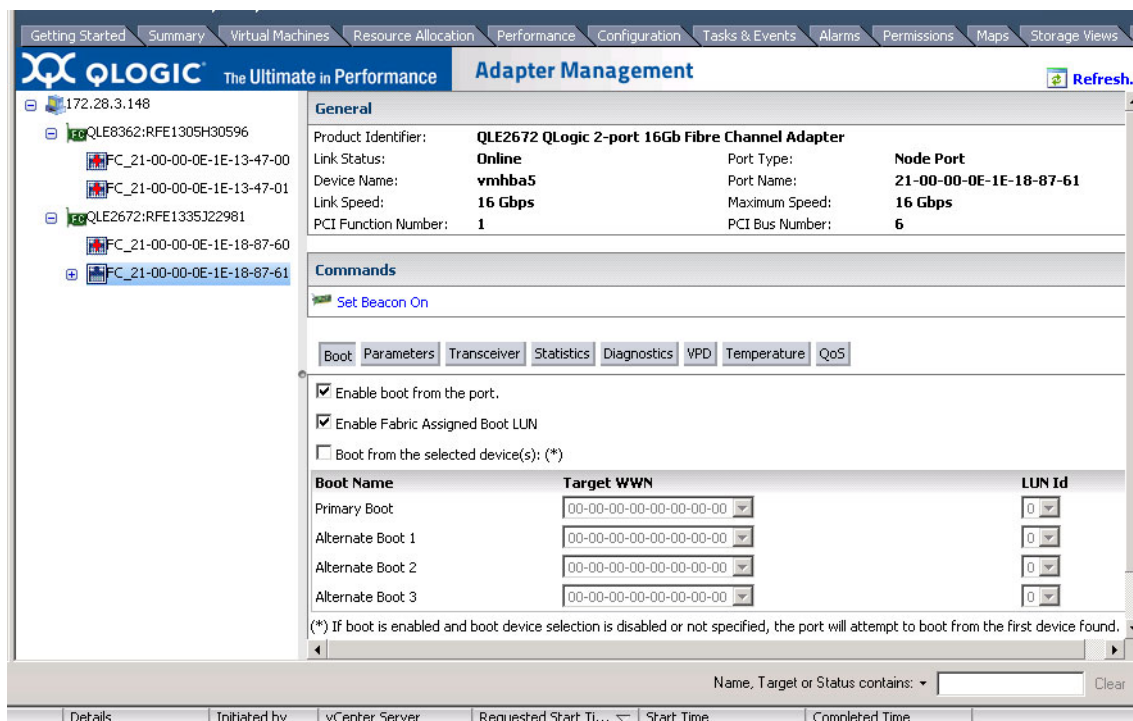

Figure 4-13. Fabric-Assigned Boot LUN in QConvergeConsole Plug-in for VMware vCenter Server
4. On the Boot page, select the **Enable Fabric Assigned Boot LUN** check box. Figure 4-13 shows an example.